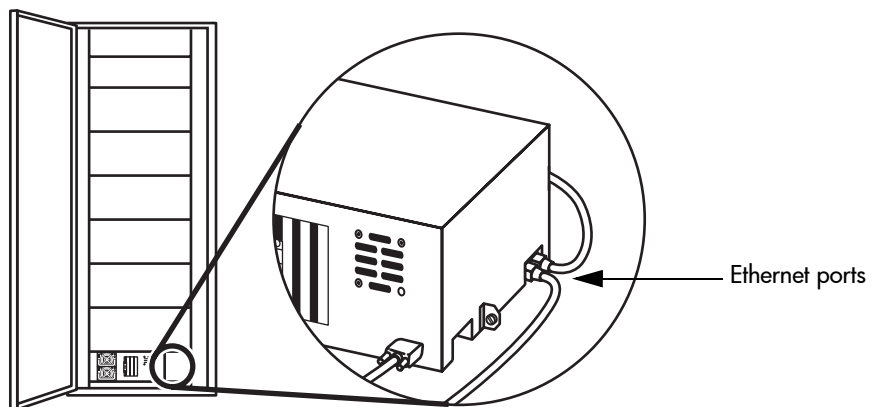

Figure 57: Connecting the cabinet controller LAN cable
2. Attach the cable to the front Ethernet port on the cabinet controller located at the base of the library. The ports are on the right side toward the back of the cabinet controller (see Figure 57).